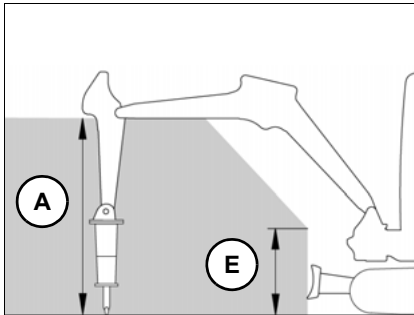

Fig. 126 Job site with shatter protection
- ▶ Note restricted work area (see fig. 126/127).
Figures 126 and 127 refer to work with a Wacker Neuson hydraulic hammer.